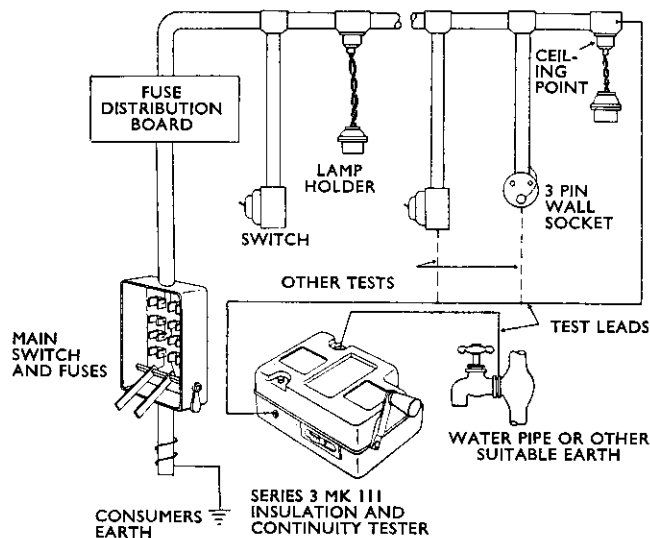

Figure 17 Testing the earth-continuity of an installation. Good contact must be made between test leads and conduit under test
2. Connect one terminal of the testing instrument by a long test lead to a rising water main (as shown in Figure 17), or to the consumer's main earth.